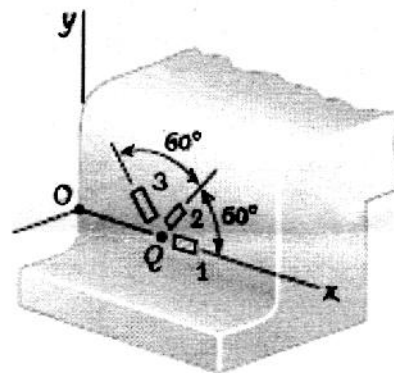

Fig. Q4b
- (b) Using a 60° strain rosette (Fig. Q4b), the following strains have been measured at point Q on the surface of a steel machine base: $\epsilon_1 = 40 \mu$, $\epsilon_2 = 980 \mu$ and $\epsilon_3 = 330 \mu$. Determine at point Q , (a) the principal strains, (b) the principal stresses and the principal planes. Use $E = 200$ GPa and $\nu = 0.3$.